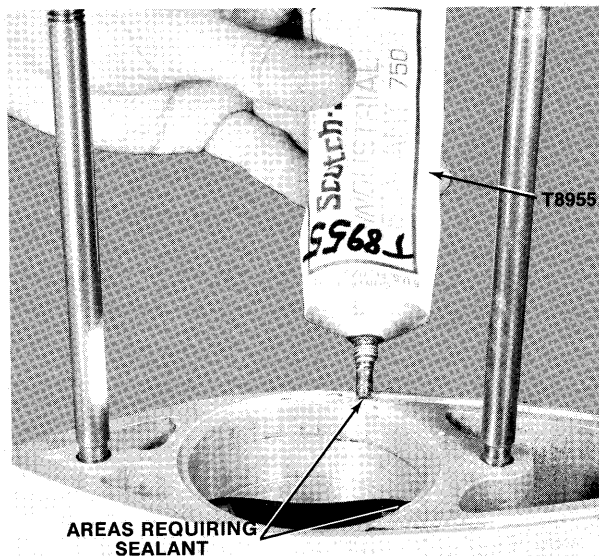

Figure 7—Areas to Have Sealant
- G. Apply sealant (Special Tool T8955) to gear housing—lower in area where groove around pinion bearing cup meets seal groove. Just a little amount of sealant is required to hold seal in place until gear housing—upper is installed. See figure 7.